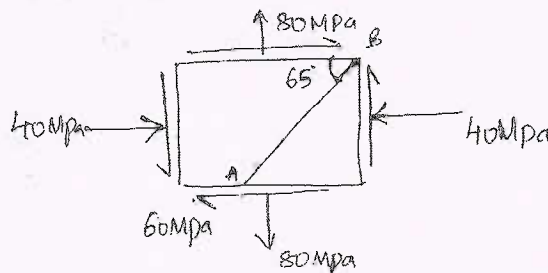

Fig. Q3 (b)
- c. At a point in a strained material, the stresses are as shown in Fig. Q3 (c). Determine the